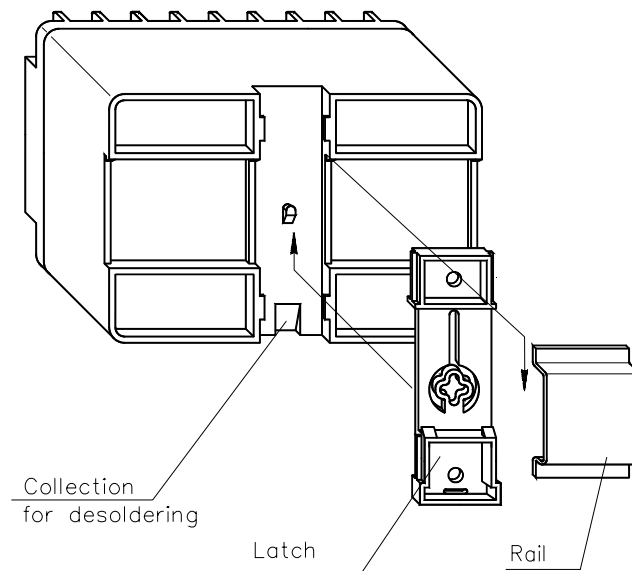

Figure B.1 Mounting on the Rail
- place a latch according to figure B.1 to link the protuberances of a case to edge of the rail;